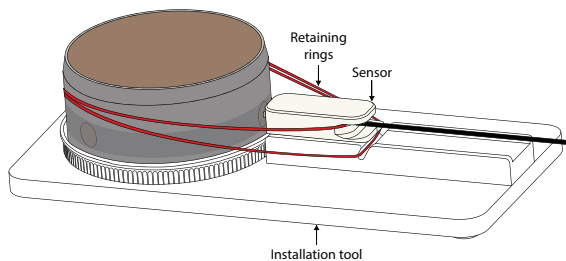

Figure 20 Sensor secured to sample ring on Installation tool
9. Use a second retaining ring to secure the sensor by placing the retaining ring around the sample ring and positioning it in the upper notch of the sensor hull (Figure 20).